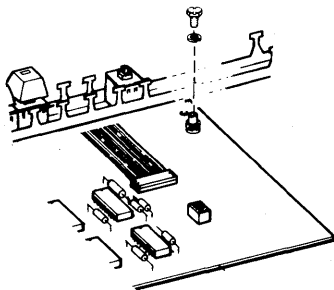

Fig. 21—Screw Removal
- (d) Remove the screw securing the right rear corner of the circuit card to the channel (Fig. 21).